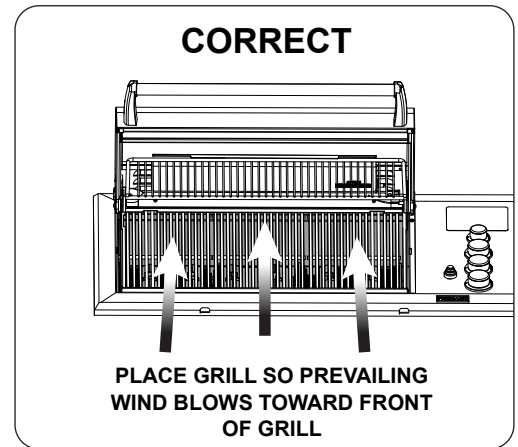
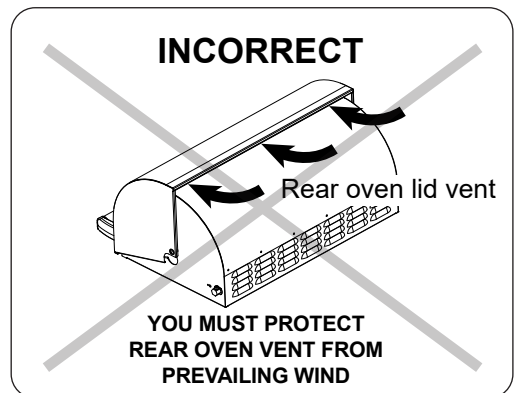

Fig. 19-1 Airflow direction - CORRECT
Fig. 19-2 Airflow direction - INCORRECT
Proper airflow (front-to-back, Fig. 19-1) **MUST** be maintained for the unit to perform as it was designed. If airflow is blocked, overheating and poor combustion will result. Do not block the air inlets around the bottom perimeter of the oven lid (see Fig. 19-3).
**CAUTION:** Wind blowing into or across the rear oven lid vent (Fig. 19-2) can cause poor performance and/or dangerous overheating. Install the grill so that the prevailing wind blows toward the front of the grill (Fig. 19-1).